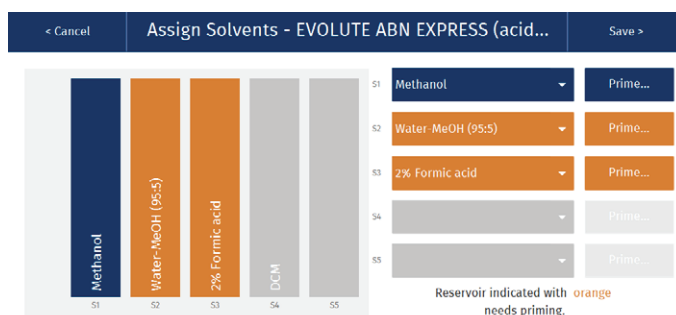

Figure 28. An orange solvent reservoir needs to be primed. A grey reservoir is either empty or not used in this run.
21. Press the illustration of the solvent reservoirs in the software (position **5**) and ensure that the solvent bottles (S1-S5) are assigned correctly in the **Assign Solvents** view (Figure 28). If necessary, change using the drop-down lists.
22. If one or more solvent reservoirs are orange in the **Assign Solvents** view (see Figure 28), prime the solvent inlet line(s):